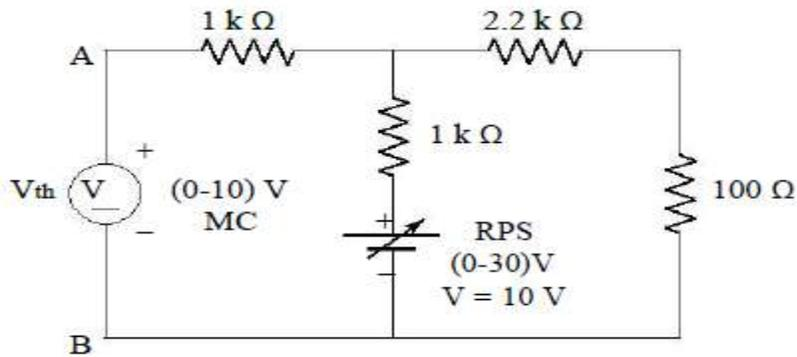

Fig 1.3
- Disconnect the circuit and connect as per the Fig. 1.3.